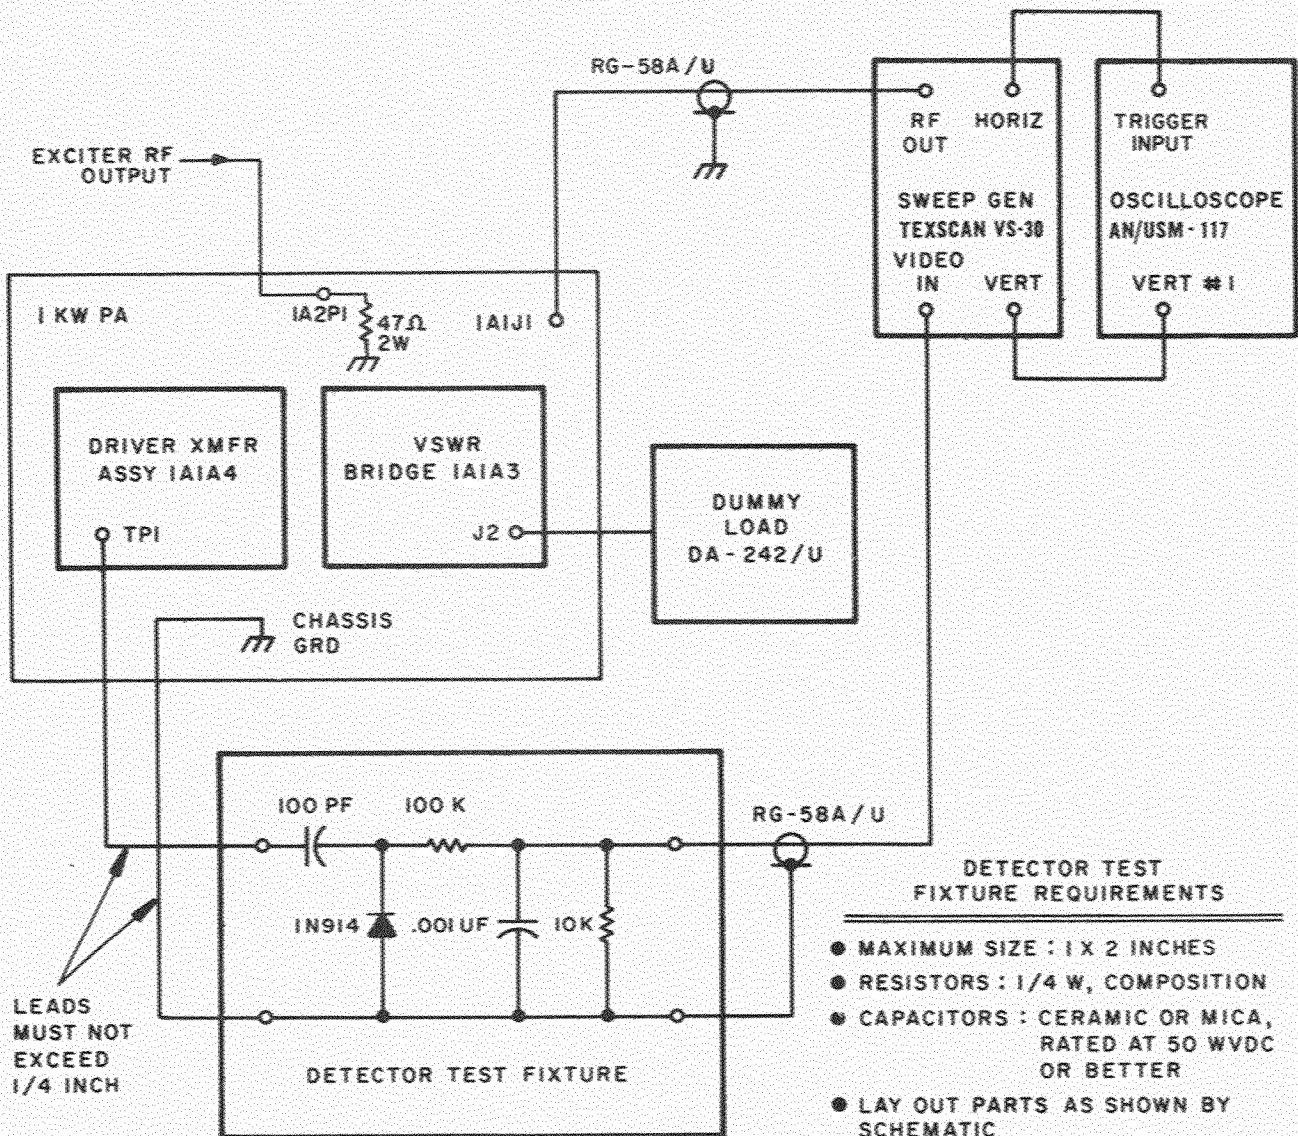

Figure 5-3. Driver Transformer Alignment Test Setup
Detector test fixture (fabricate per figure 5-3).
3. Connect test equipment with 1 KW PA to provide test setup illustrated by figure 5-3. Note that Detector Test Fixture is placed at driver transformer 1A1A4 so that very short (1/4") leads are utilized. Shielded RF cables connect between sweep generator and 1 KW PA and between sweep generator and Detector Test Fixture.